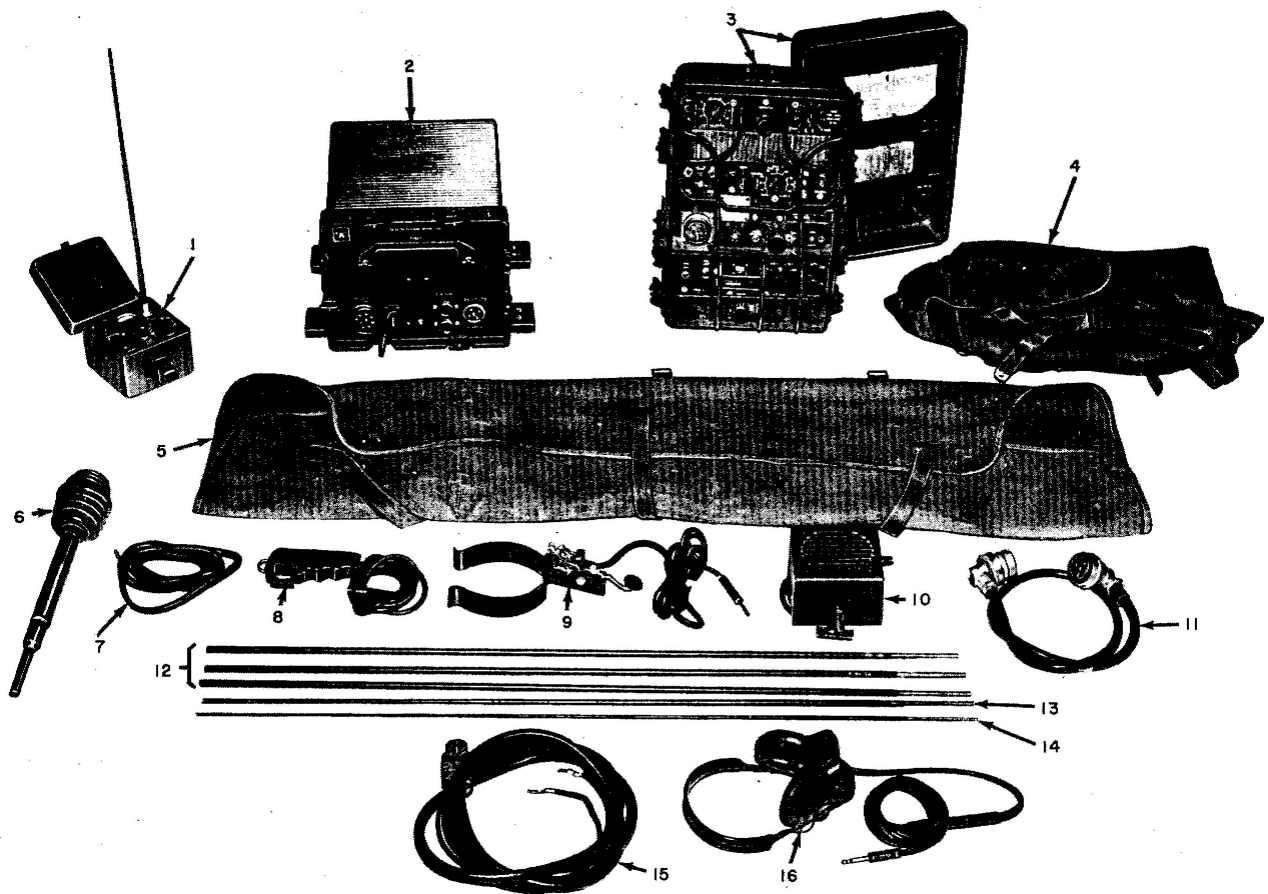

Figure 2. Radio Set AN/VRC-84.
c. The AN/VRC-34 (fig. 2) is installed and operated in a vehicle and may be operated as an isolated unit or in a net group